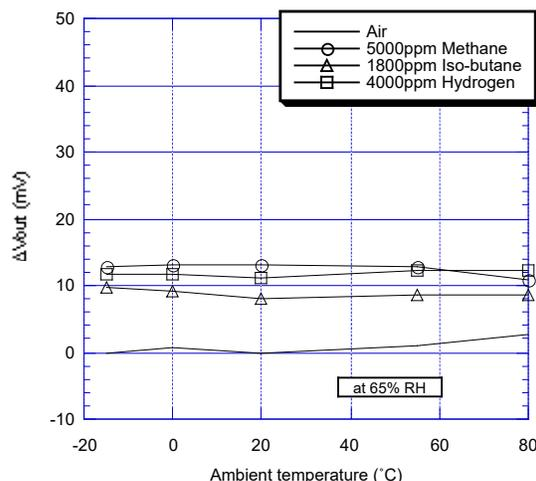

Fig. 5 - Temperature dependency
Figure 5 shows the temperature dependency of TGS6812-D00 at 65%RH in 10%LEL of methane, LP gas, and hydrogen. Since the temperature dependency of element (D) is compensated by element (C), the temperature dependency of sensor output in the range from -10°C to +70°C is very small.